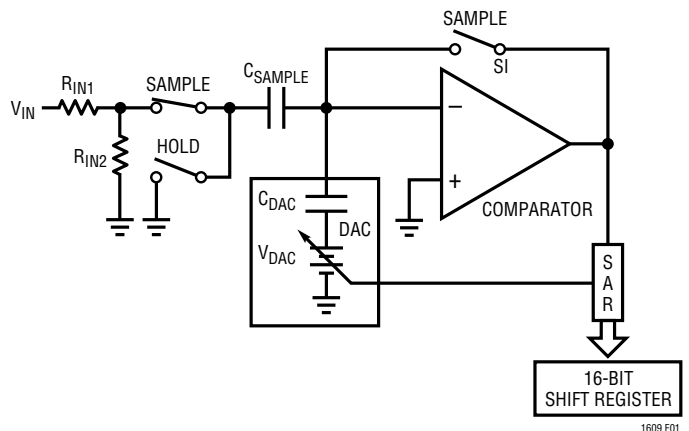

Figure 1. LTC1609 Simplified Equivalent Circuit
**R1IN (Pin 1/Pin 1):** Analog Input. See Table 1 and Figure 1 for input range connections.
**R2IN (Pin 3/Pin 3):** Analog Input. See Table 1 and Figure 1 for input range connections.
**R3IN (Pin 4/Pin 4):** Analog Input. See Table 1 and Figure 1 for input range connections.
During the conversion, the internal 16-bit capacitive DAC output is sequenced by the SAR from the most significant bit (MSB) to the least significant bit (LSB). Referring to Figure 1,  $V_{IN}$  is connected through the resistor divider to the sample-and-hold capacitor during the acquire phase and the comparator offset is nulled by the autozero switches. In this acquire phase, a minimum delay of  $2\mu\text{s}$  will provide enough time for the sample-and-hold capacitor to acquire